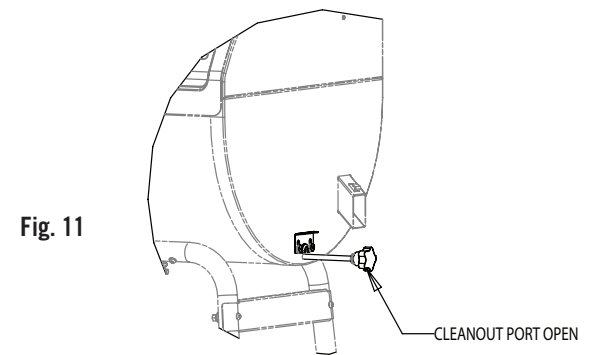

Fig. 11
2. Lift pullout lock and pull clean-out port knob to empty ash into ash cup. See Fig 11